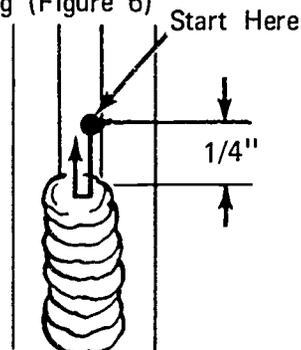

FIGURE 6
- I. About half-way up joint, break the arc, restart the arc, move back to bead, and continue welding (Figure 6)